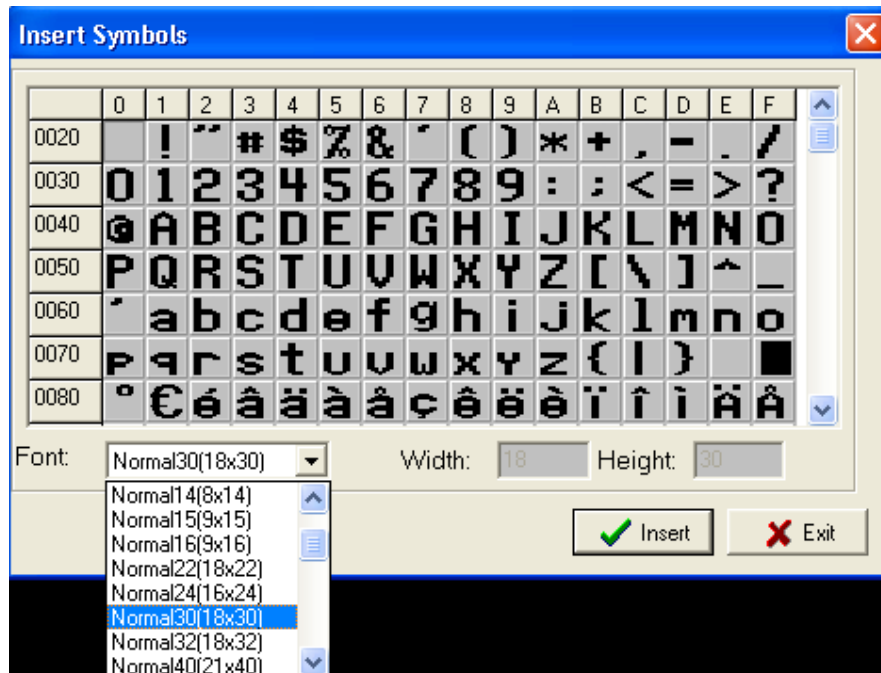

Fig. 2.13 Insert Symbols Interface
**Insert Symbols:** This function helps the user to insert some special symbols whenever they need. Sometime we find that it is not that convenient to insert some special symbols, because they can't be found on the keyboard. That is why we need the function of "Insert Symbols". As shown in Fig 2.13, we can see the special symbols and characters of font Normal130. The symbols and the characters vary with different types of fonts.